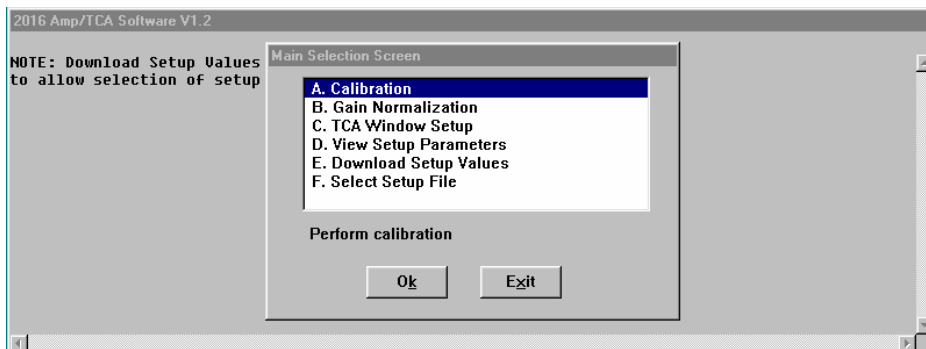

Fig. 11
2. Once the monitor is on, Figure 11 shown above will appear on the screen.
15. Repeat steps 12 - 14 until windows have been set for all 13 channels. After the last channel has been set, return to the TCA Window Setup and click PREVIOUS. The first window (Figure 11) will reappear.